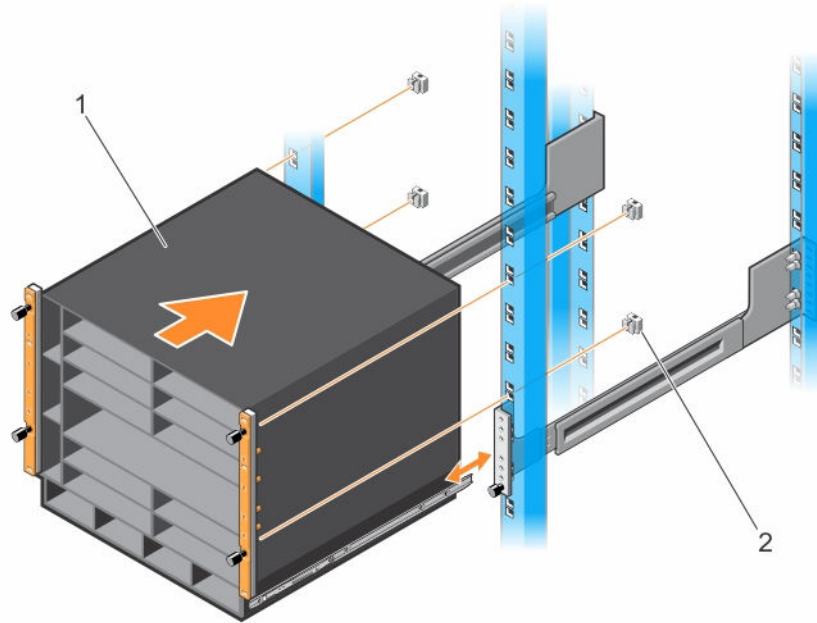

Figure 14. Installing the Chassis with ReadyRails in a Non-Threaded-Hole Rack
4. Install two cage nuts (item 2 in Figure 14) in each front post at the desired height of the two thumb screws on each flange. Lift the chassis and slide it into the rails installed in the rack (Figure 14). Tighten the thumb screws in the cage nuts to secure the chassis to the rack.